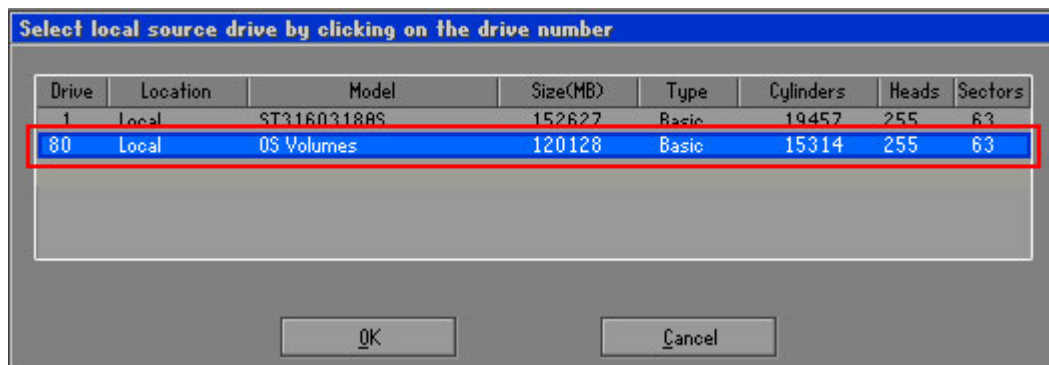

Figure A-11: Select a Local Source Drive
Step 5: Select the local source drive as shown in **Figure A-11**. Then click OK.